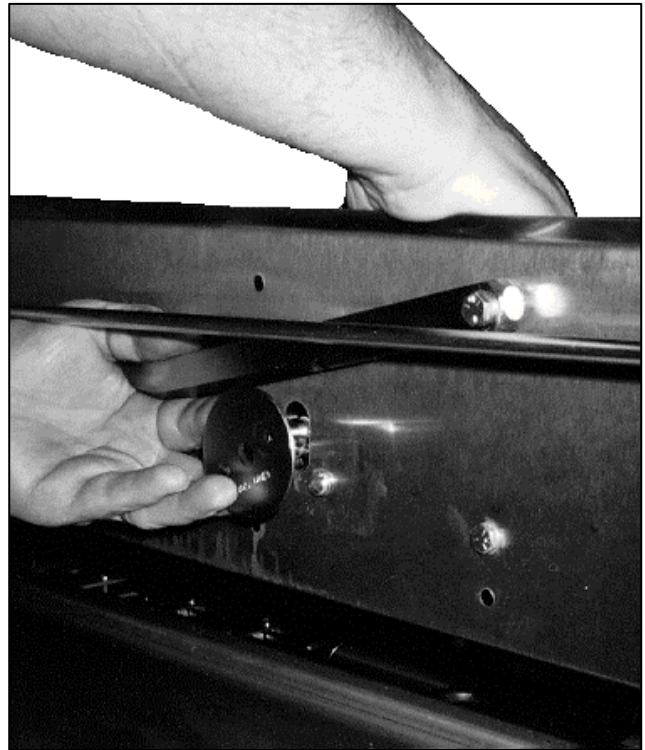

Figure 3-2. Removing the Turner Cam Assembly.
- c. Lift up and pull out on the turner cam assembly. See Figure 3-2.